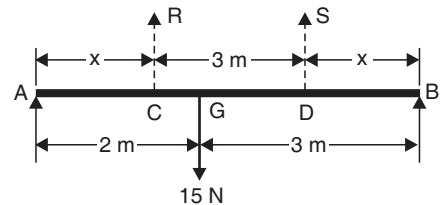

Fig. 3.26
**Sol.** Refer to Fig. 3.26. Let G be the c.g. of the rod AB, C and D be the pegs. Let R and S be the reactions at the pegs C and D respectively.